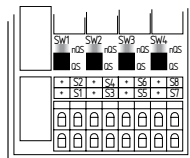

Fig. 5
- Pos. QS (below) (see Fig. 5): cross-wire short proof, suitable for 2-channel applications without outputs connected to the potential in the control circuits and applications with outputs connected to the positive and negative potential in the control circuits.